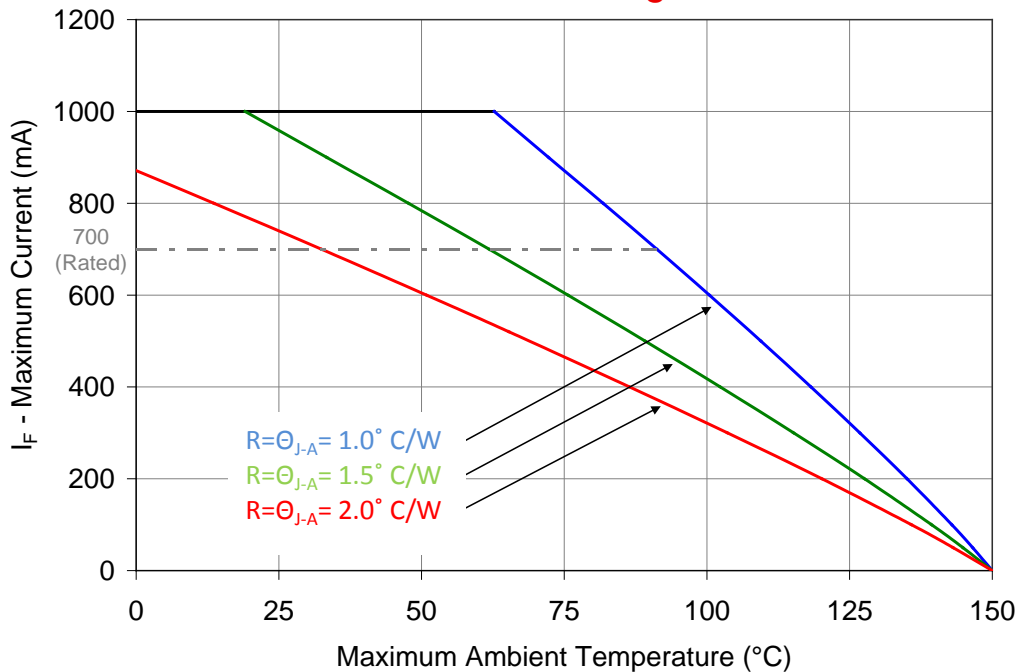

Figure 10: Maximum forward current vs. ambient temperature based on  $T_{J(\text{MAX})} = 150^\circ\text{C}$ .
- Maximum DC forward current (per die) is determined by the overall thermal resistance and ambient temperature. Follow the curves in Figure 10 for current de-rating.
Notes for Figure 10: